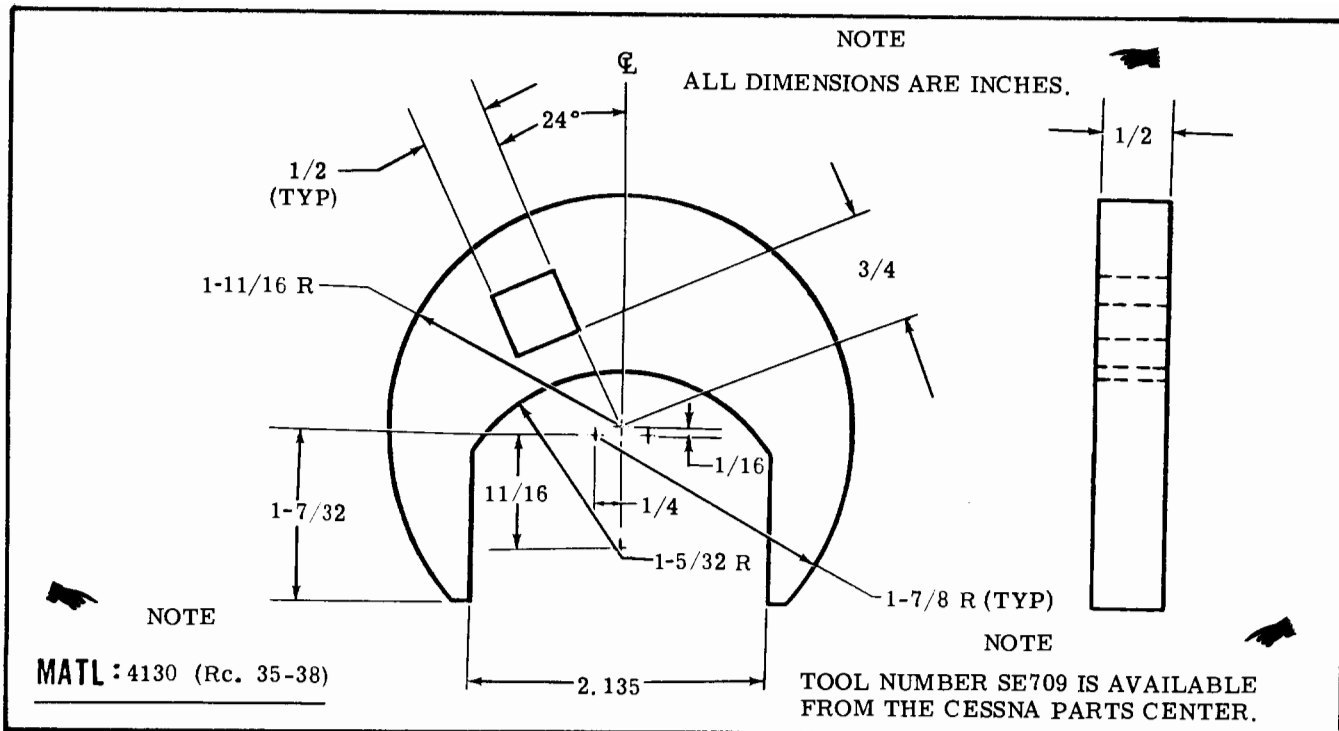

Figure 12-5. Oil Filter Adapter Wrench Fabrication
A special wrench adapter for adapter nut (15) (Part No. SE-709) is available from the Cessna Service Parts Center, or one may be fabricated as shown in figure 12-5. Remove any engine accessory that interferes with removal of the adapter.
b. Note angular position of adapter (12), then remove safety wire and loosen adapter nut (15).
c. Unscrew adapter and remove from engine. Discard adapter O-ring (16).